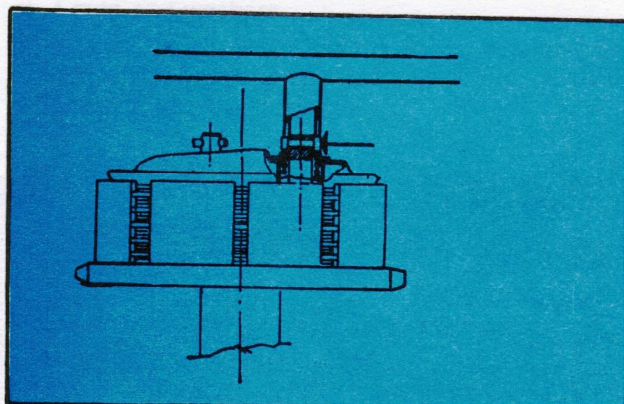

Fig. 15 - Compressing of the clutch spring
- a) compress clutch springs with fixture No. 11 and without 3 pins (fig. 15).